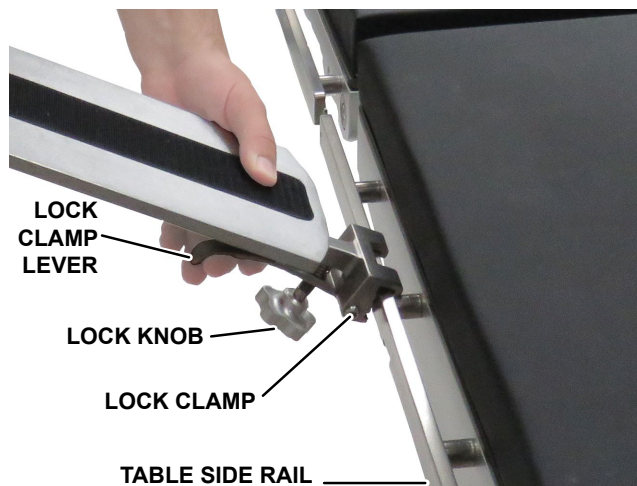

Figure 2. Armboard Components
1. With the lock knob fully loosened, depress the lock clamp lever (Figure 2).
2. Depress the lock clamp lever (Figure 2).